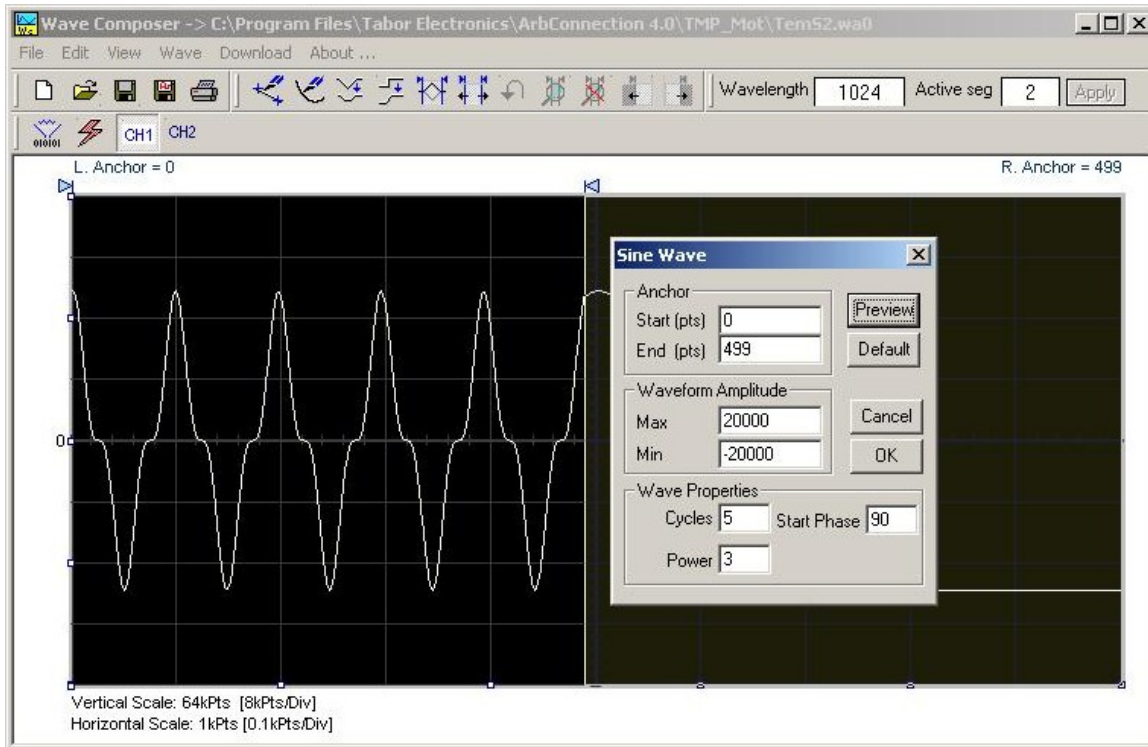

Figure 4-34, Generating Distorted Sine waves from the built-in Library
You can create any waveform from the built-in library using the Wave command. Clicking on one of the Wave options will open a dialog box. An example of the Sine waveform dialog box is shown in Figure 4-34. This dialog box is representative of the rest of the waveforms, so other waveforms will not be described.
Use the following procedure to create sine waveforms from the built-in library. Click on Wave, then sine... the dialog box as shown in Figure 4-34 will appear. You can now start programming parameters that are available in this box.
- 2) You can also place your anchors in a more precise manner from the waveform library by programming the start and end points for the waveform. An example of anchor placement using the sine dialog box is shown in Figure 4-34.